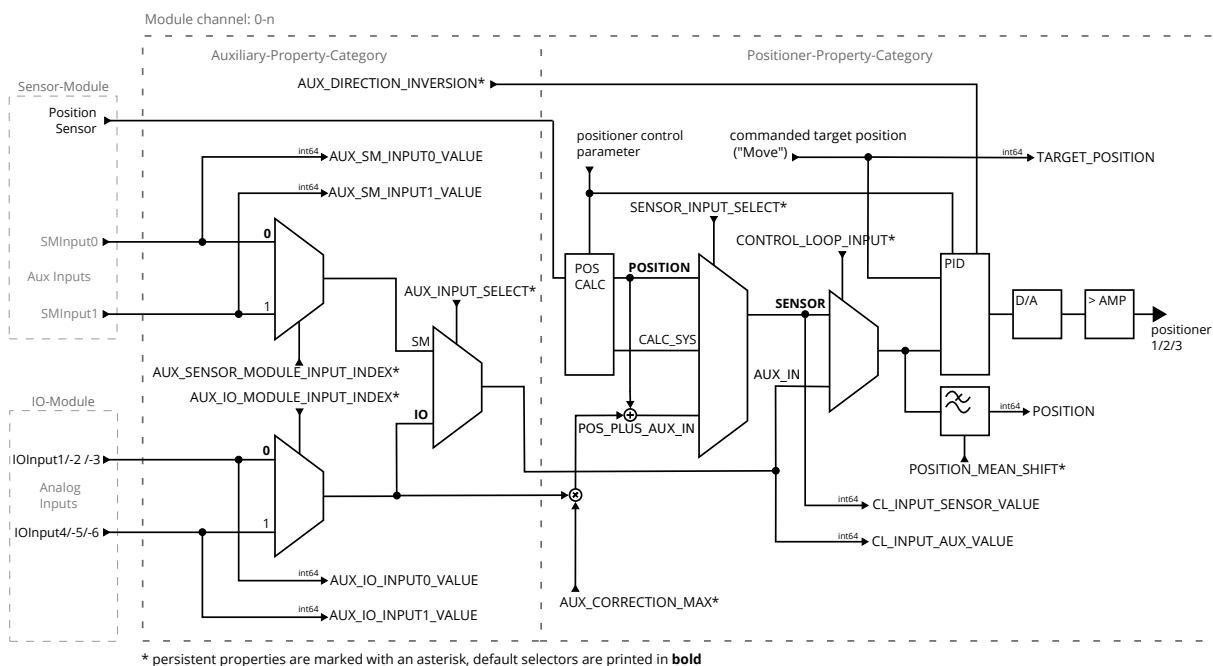

Figure 2.14: Auxiliary Input Configuration (per channel)
- The auxiliary input signal is defined as absolute value, thus it is not possible to define a logical scale offset, e.g. by setting the position with the Position property. Doing so affects the position calculation of an integrated sensor of a positioner (if there is one). Several properties give access to the position of an integrated sensor as well as the auxiliary input values regardless of the actual signal currently used as feedback signal. Refer to figure 2.14 for the different signal paths and properties in this context.
After that the analog input signal, scaled to a corresponding position, is continuously added to the current position. Refer to figure 2.14 for an overview of the signal paths and used properties.